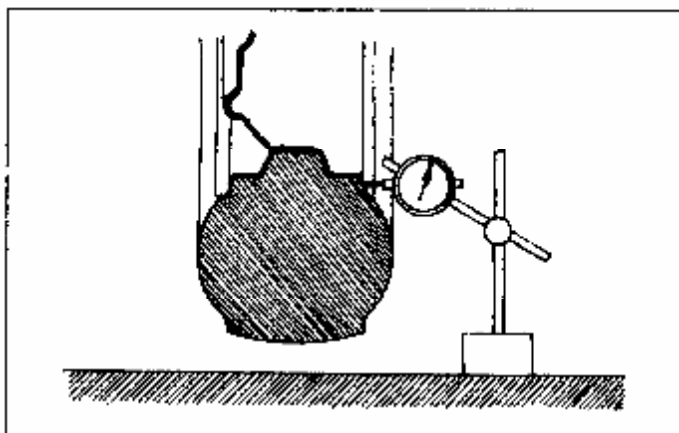

Figure 10-5-3 Check for End Surface Run-out of Wheel
① Check tire for wear and pressure. For 185/195 tire, its front wheel pressure is $325 \pm 5 \text{ kPa}$, and rear wheel is $450 \pm 5 \text{ kPa}$. Air pressure for all 205 tires is $250 \pm 5 \text{ kPa}$. The air pressure difference between coaxial wheels should not exceed 5 kPa .
② Check for end surface run-out of wheel, the value should be below 1.2 mm . (Figure 10-5-3)